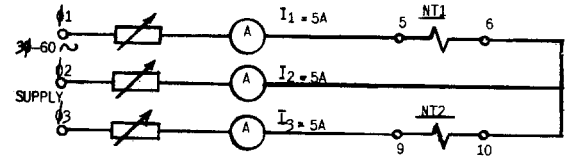

Fig. 4 (0165A6020-0) Connections to the CNP11A Relay for Positive Sequence Current
1. Connect the relay to a three-phase source (rated frequency) capable of supplying 20 amperes balanced load, as shown in Fig. 4.